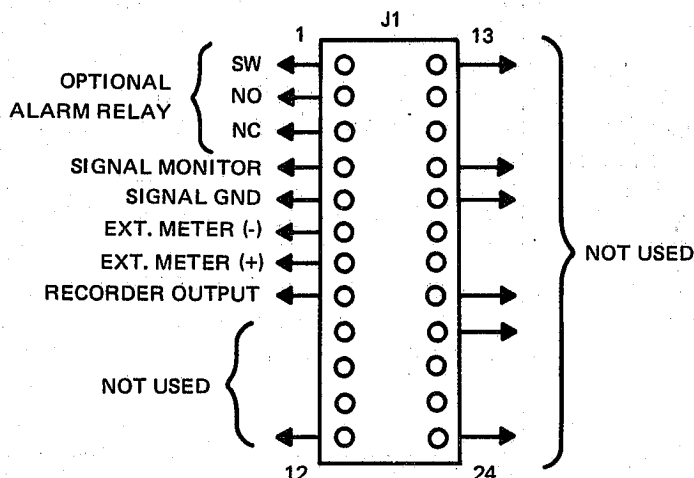

Figure 1-5. Layout of J1
1-18. Several auxiliary outputs for remote monitoring or record keeping are available at J1, a multipin connector on the rear panel. The layout of J1 is shown in Figure 1-5. The outputs available are as follows:
- b. Option 03, Alarm Indication. Applicable to both models. SPDT relay deenergizes when the measured noise figure degrades beyond a preset limit. The threshold is continuously variable from inside the unit. The relay contacts are available at J1 (see Figure 1-5). Refer to Appendix B.